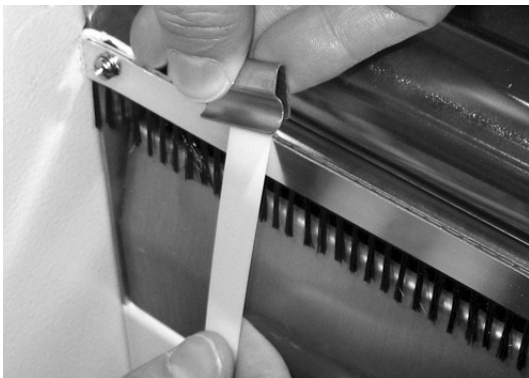

Figure 11
3. With strap in place, press clip down over strap. (Figure 11)